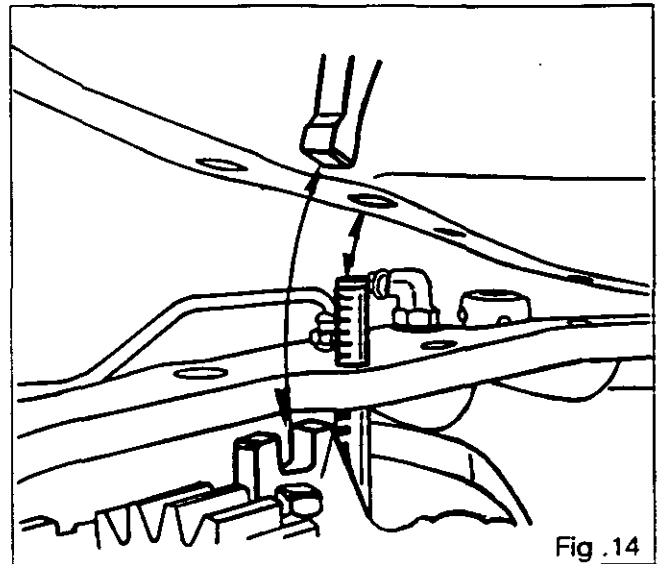

Fig. 14
**Note:** When refitting the cover, ensure that the supply pipe of the differential lock and the control finger (4-speed economy PTO) engage properly in their respective positions (Fig. 14).
56. Mount the supports for the PTO control cables (depending on the version) and fit the bolts (24) of the cover (10). Tighten to the following torque :